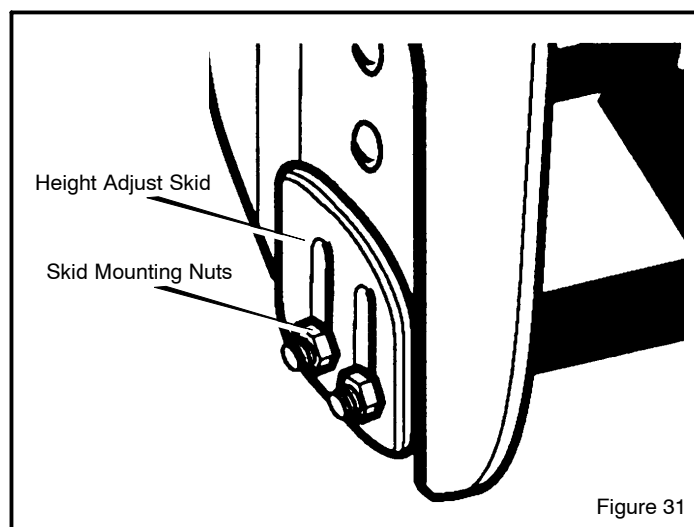

Figure 31
2. Loosen skid mounting nuts (Figure 31) and push the skid down until it touches the ground. Retighten mounting nuts.